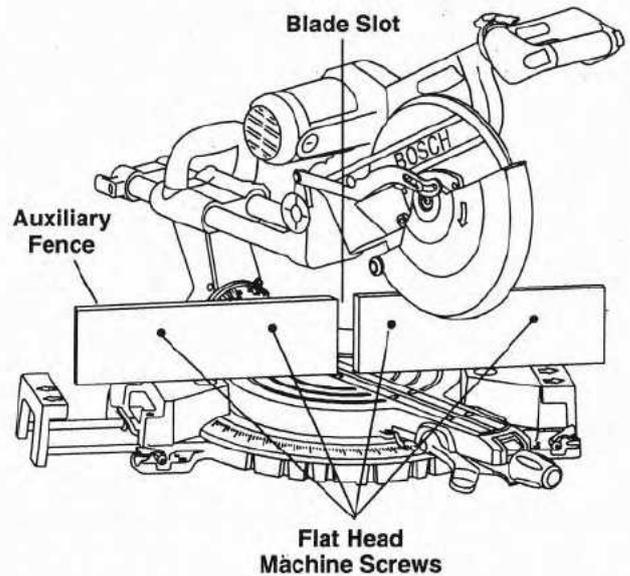

Figure 22. Auxiliary Fence
1. Place a piece of wood against the miter saw fence (Figure 22). (Wood can have a maximum height of 4-1/2" (114.3mm). Check that auxiliary fence assembly does not interfere with head assembly.